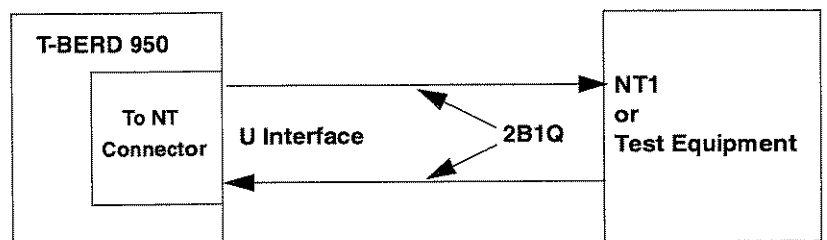

Figure BRI-2. LT Terminate Mode
The purpose of the Line Termination (LT) mode is to BERT the physical layer of the U interface toward the Network Termination (NT) device. This mode is not capable of placing or receiving a call. This mode can BERT the B1, B2, B1 and B2, or 2B+D-channels. The BERT operations can either be full duplex (with another BERT device on the NT side) or looped back. Phantom power is not provided. Figure BRI-2 shows BER testing using full or partial bandwidth for this mode.